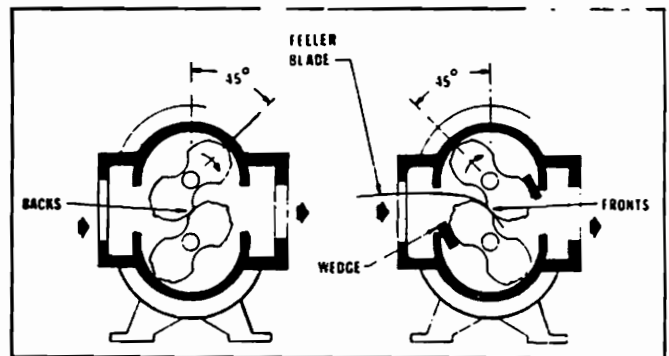
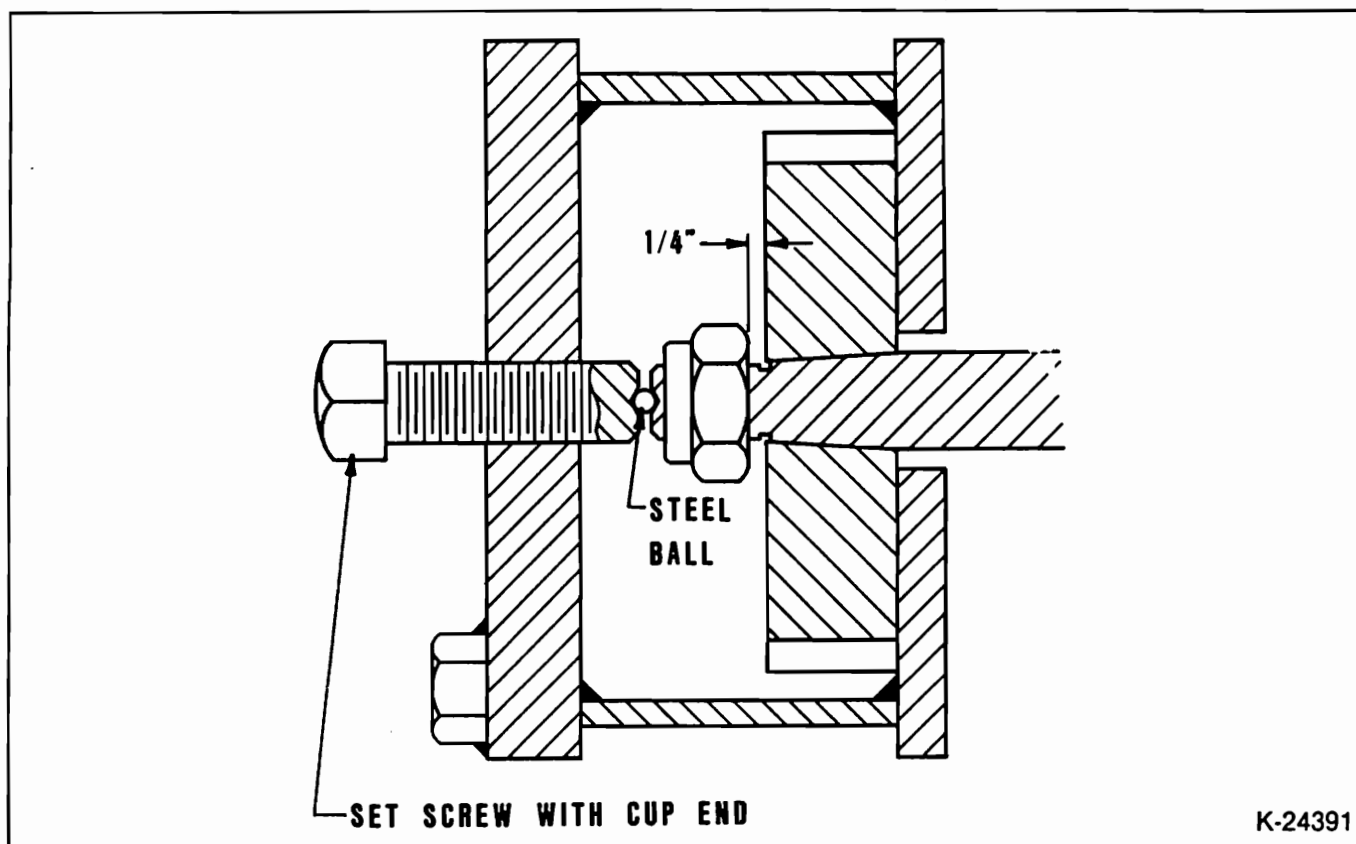
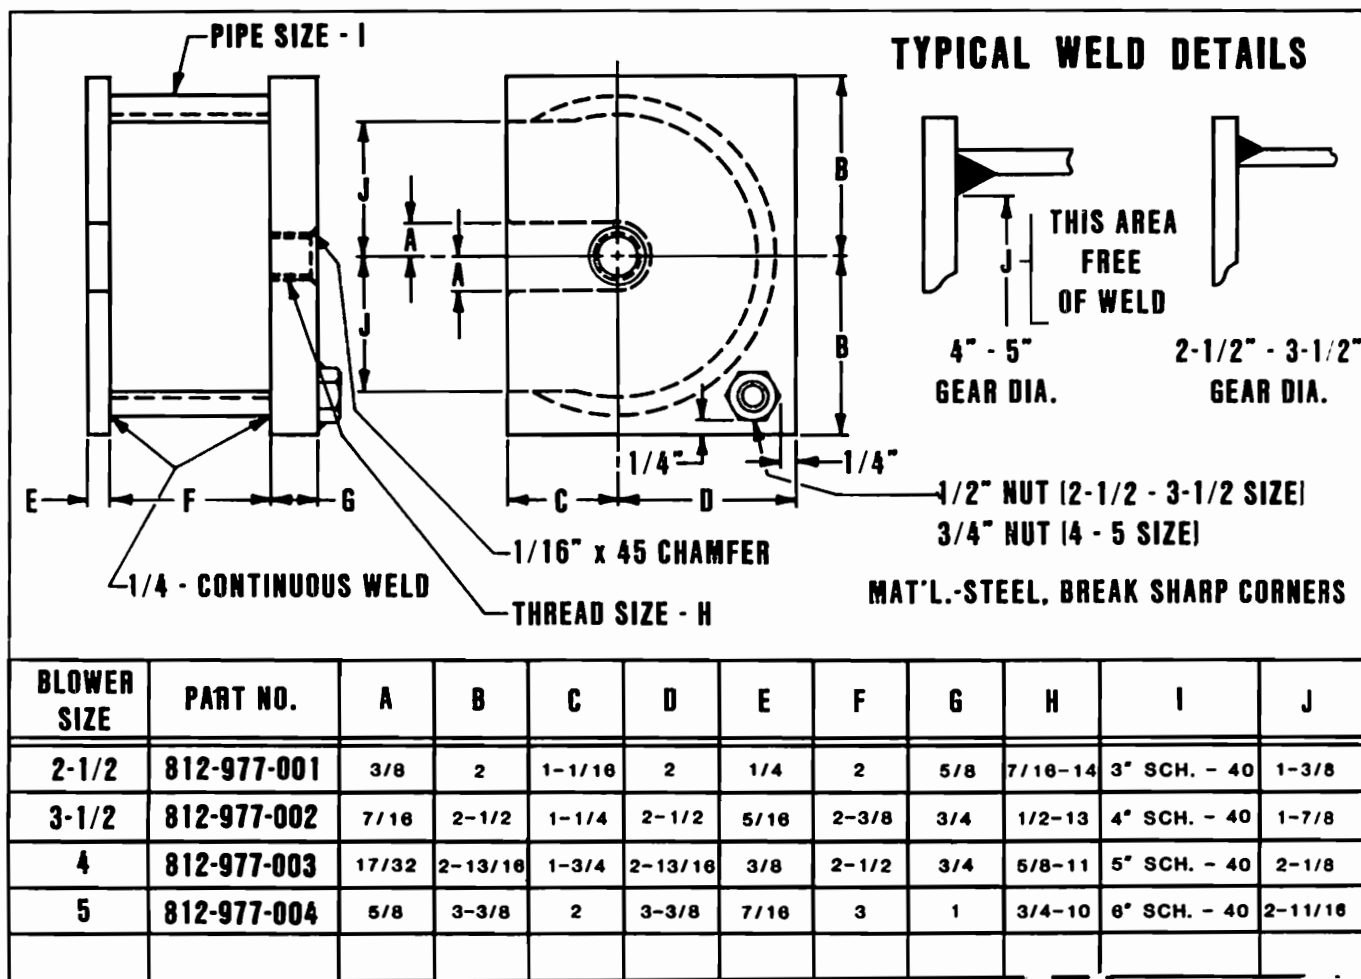

Figure 5 — Impeller Timing Viewed From Gear End
Figure 9 — Gear Removal
Figure 10 — Gear Pullers for U-RAI with Tapered Gear Bores
Item Numbers and their word descriptions from Figures 5 & 6. Also specify quantities wanted and the blower size and serial number from the nameplate.
3. **GEAR REMOVAL:** For this operation, the impellers should be wedged as shown in Figure 5. Back off gear clamping nuts (17) about 1/4". Use a puller of the type shown in Figure 10. Position it around the gear per Figure 9. As the puller set screw is torqued, the puller will have a tendency to turn and contact teeth of the other gear. To prevent this contact, hold the puller corner nut with a wrench while torquing the set screw. Once the gear is unseated, remove the puller. Remove gear nuts (17) and the gear. Repeat same procedure for the other gear. **DO NOT** remove gear nuts (17) completely before the gears are unseated from the taper fits or damage/injury may result.
4. **GEAR INSTALLATION:** Place impellers in correct position as previously marked. Be sure shafts and gear bores are clean and free of scratches. Clean the shaft tapered fits. Place hardwood wedges as shown in Figure 5. Install drive gear (4) and gear nut (17) so match mark at tooth is at the line of engagement. Tighten the drive gear nut to the torque given in Table 5. Blower assembly must be fastened down for torquing operation.
5. Installing driven gear (4) - Insert a long, metal feeler gauge between the impellers' lobes at the fronts or backs as shown in Figure 5. Feeler gauge thickness to be a middle value from Table 6 for fronts and backs. Align the gear so the tooth match marks agree with the drive gear, then install nut (17). Tighten lightly with a small wrench, then check front and back clearances against Table 6 for each 45° position. Both fronts and backs should be about the same and within the specified range in Table 6. Adjust gear position, if necessary, then insert the corrected feeler gauge and wedges and use a torque wrench to tighten the gear nut to the torque specified in Table 5. Remove wedges and rotate the drive shaft by hand to make sure there are no gear tight spots or impeller contacts.